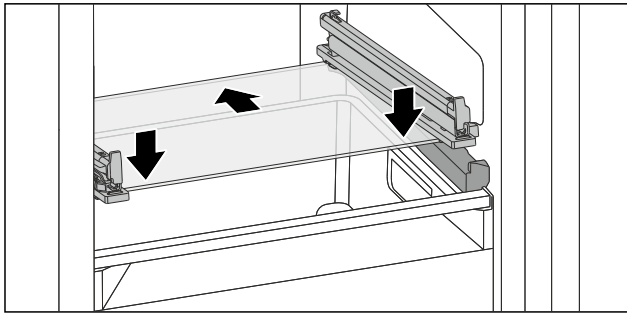

Fig. 178 Tilting drawer glass shelf
- ▶ Position glass shelf at an angle behind the stoppers. (see Fig. 178)